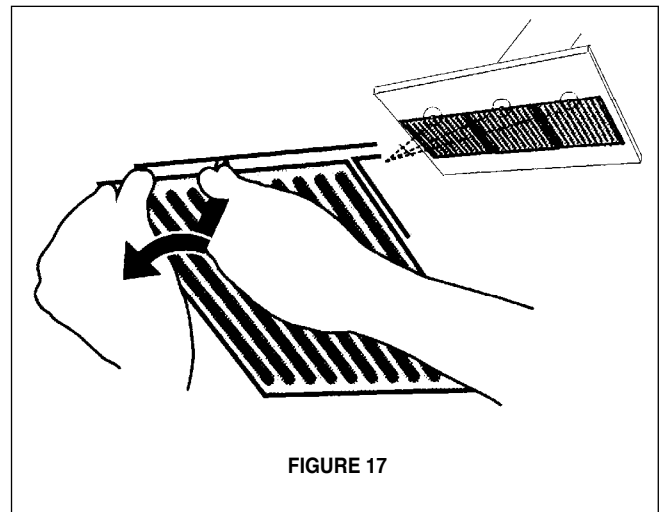

FIGURE 17
6. Install the grease filters using two hands by first pulling and turning the knob to the left so that the locking lever does not protrude from the filter (as in FIGURE 17). Insert the opposite end of the filter into the retaining channel. Insert the knob end next, then turn knob to the right to lock the filter into place.